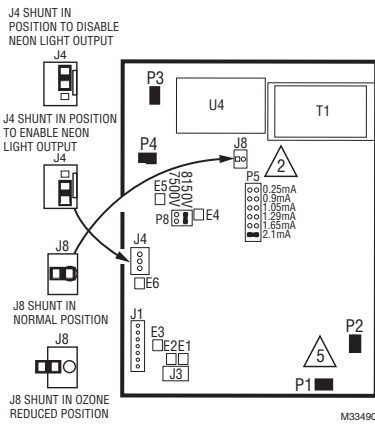

Fig. 24. Move J8 shorting bar to reduce ozone production about 20 to 25 percent.
- ❑ Route the leads through the cable clamp and hook the cable clamp to the tab on the left front of the power supply. Push down the tab to hold the cable clamp in place. See Fig. 24.
- d. Locate J8 shorting bar on the power supply. See Fig. 24. Remove the shorting bar and reinstall on only one pin.